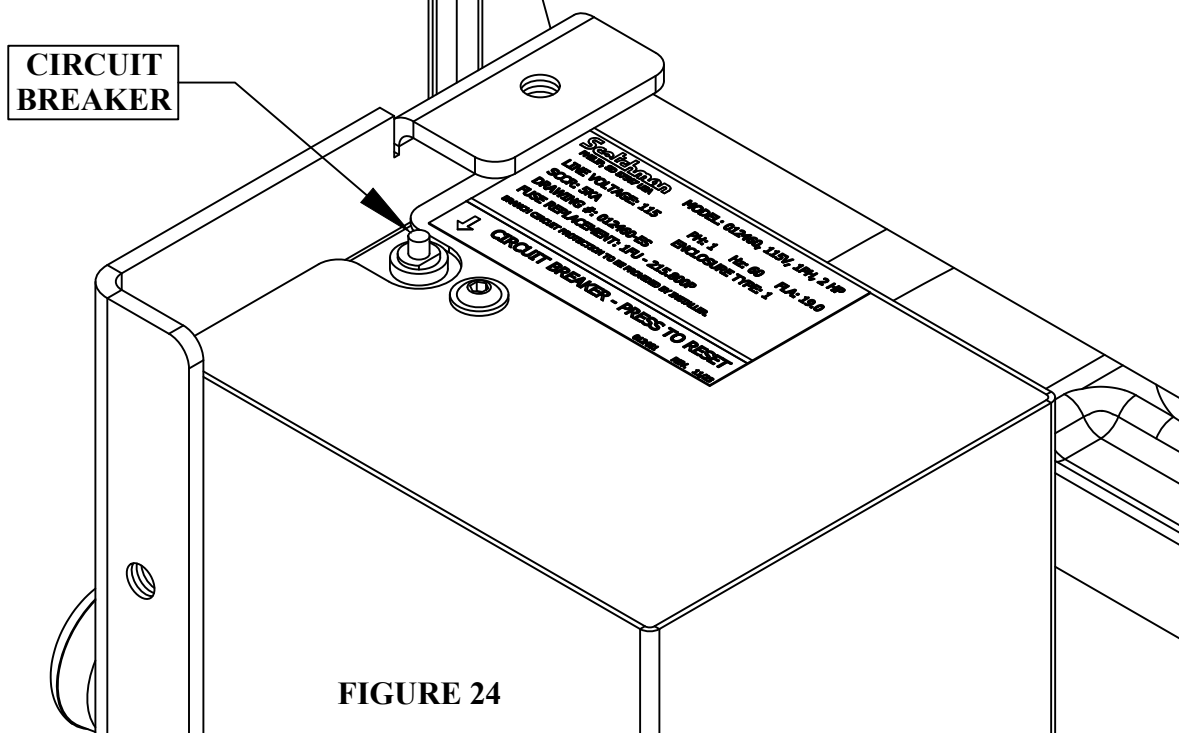

FIGURE 24
2. Check the motor protection breaker. Remove the base cover on the front of the machine. The breaker is located on top of the electrical enclosure. Press the button to reset the breaker. SEE FIGURE 24 on page 58.